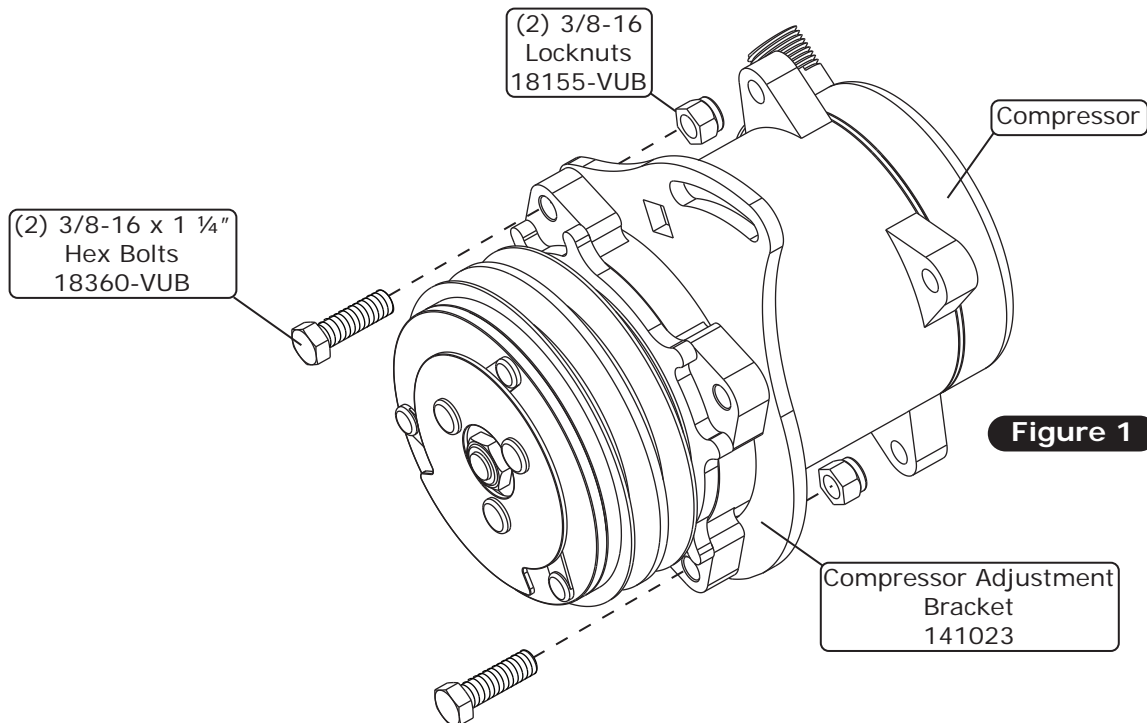

Figure 1
1. Install the compressor adjustment bracket onto the compressor using (2) 3/8-16 x 1 1/4" hex bolts and (2) 3/8-16 locknuts as shown in Figure 1, below.